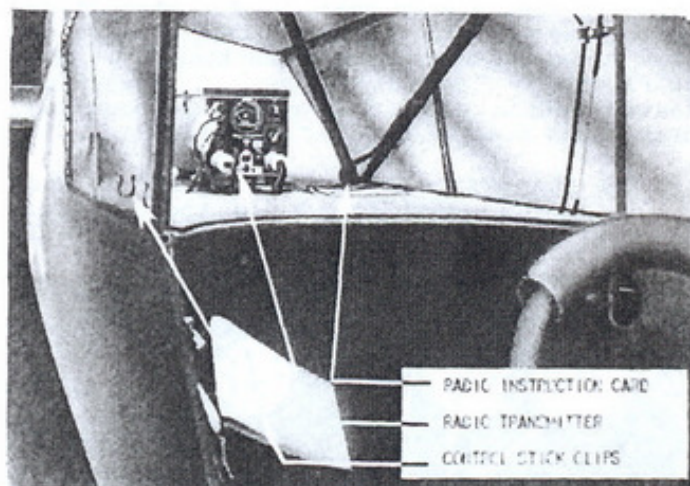

Figure 14 -
f. The Observer's Desk. (See figures 14 and 15.) - The desk is aft in the cockpit. The observer has visibility above and on all